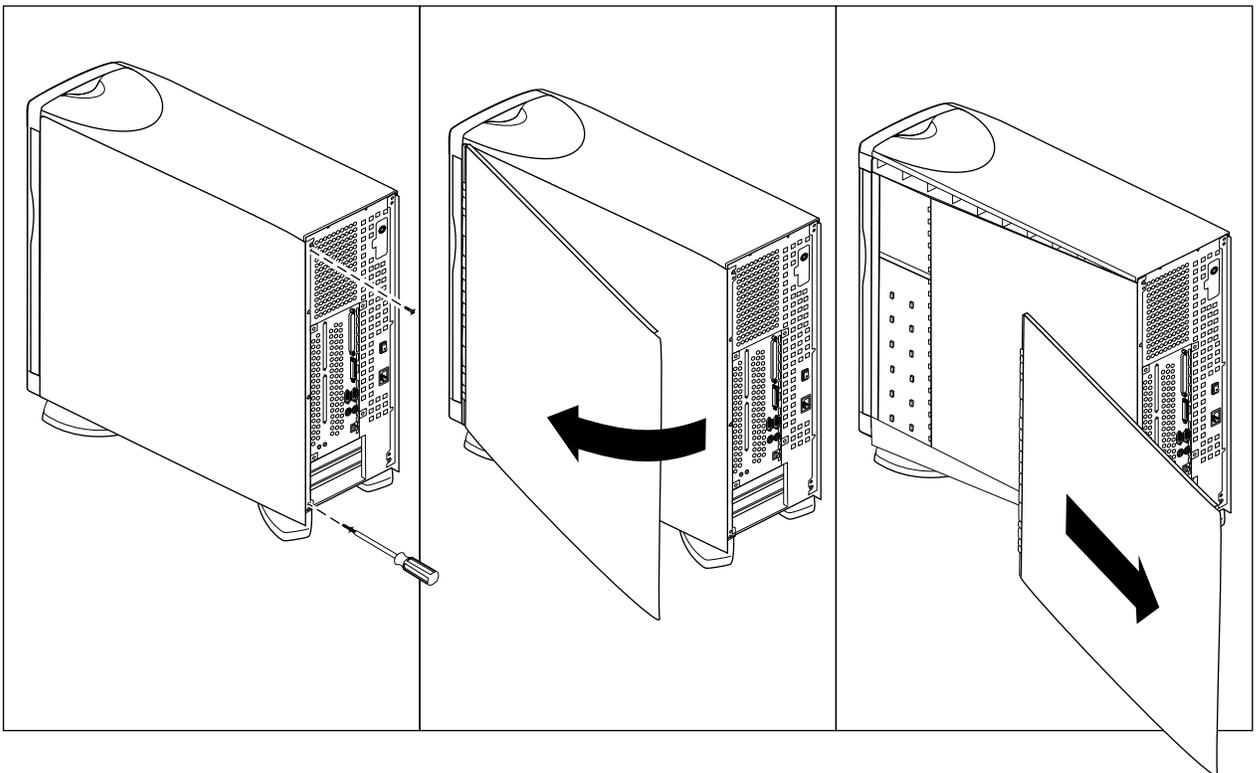

Figure 2-8 Removing the Side Panel of the Second (Slave) Module
1. If the slave system is in a tower configuration, remove the side panel as shown in Figure 2-8.